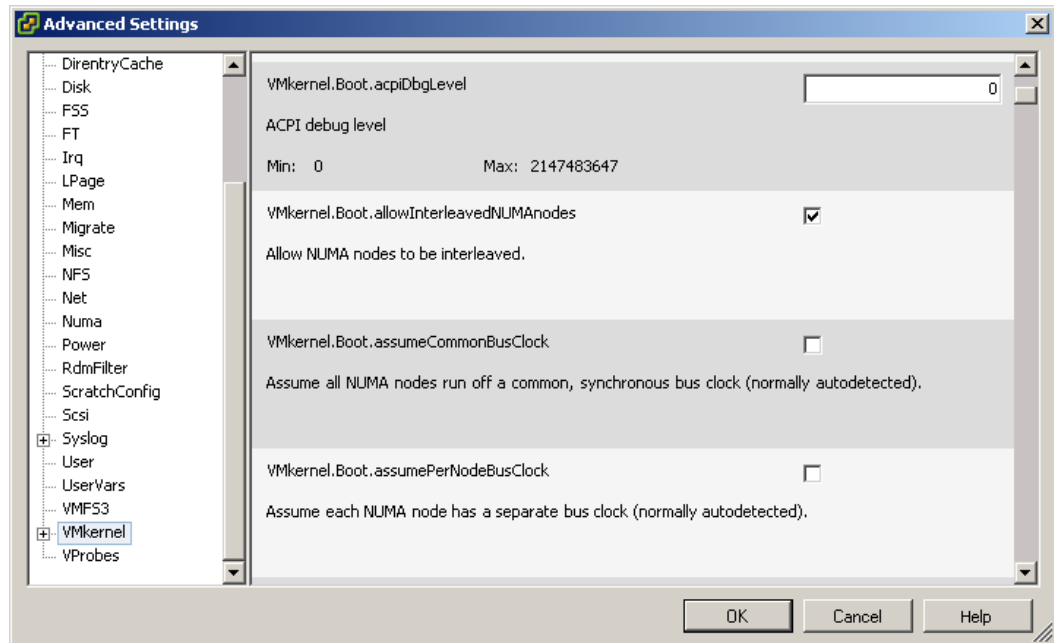

Figure 8-67 Editing the VMkernel settings in vSphere Client
11. Click **VMkernel** in the left pane and select the check box next to **VMkernel.Boot.allowInterleavedNUMANodes**, as shown in Figure 8-67 on page 431.